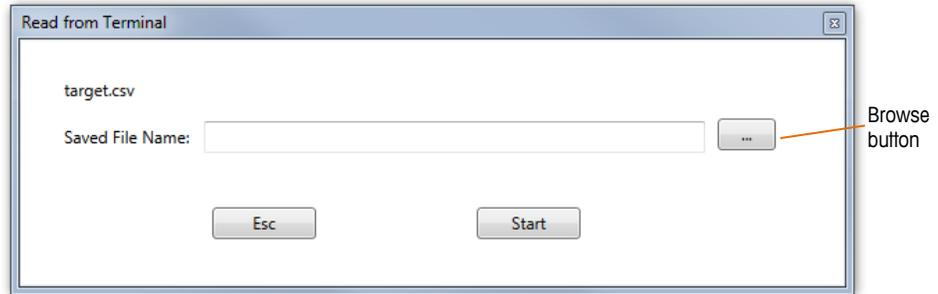
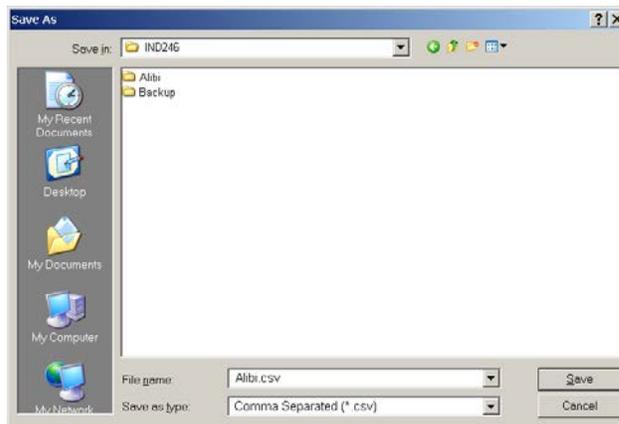

Figure 3-2: Read from Terminal Dialog
Figure 3-3: Windows Explorer "Save As" Dialog
3. When the Read from Terminal icon is been selected, a new dialog (Figure 3-2) will prompt for the **Saved File Name**. This is the name the file will be given when it is saved to the PC.
4. In the **Saved File Name** text entry area shown in Figure 3-2, enter a **Save As** name for the file about to be transferred to the PC.
Alternately, prior to clicking the Start button to begin the transfer, specify a different **Save As** location via the browse button shown in Figure 3-2. Browse to a new location in the Windows Explorer **Save As** dialog (Figure 3-3), and select or enter a **Save As** file name